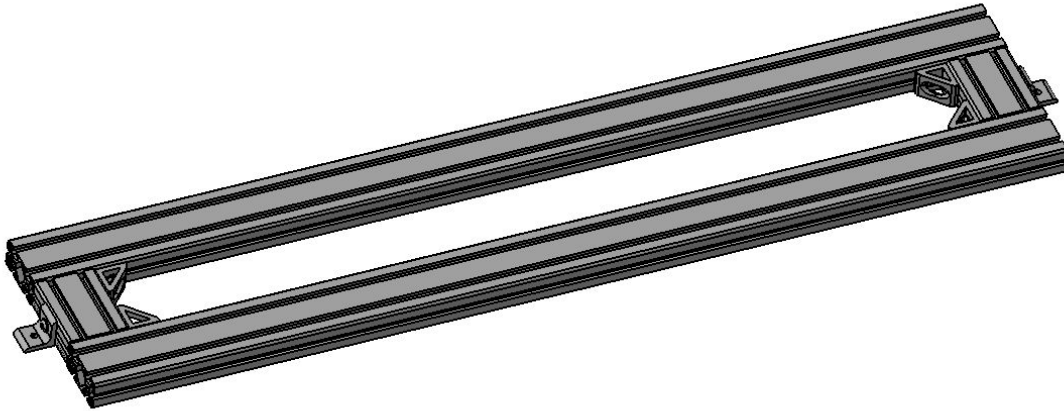

Fig. 4.7: Attaching T-slotted frame 4' (#VYTV) to T-slotted frame 4" (#WHXZ)
- ❑ Attach the assemblies from the last step at each end of the two T-slotted double beams 4' (#VYTV), connect and close the structure with button head 5/16"-18 screws (#KEDB) and T-nuts (#YREC), as shown in Fig. 4.7.
- ☐ Apply fasteners and T-nuts on only one side of the L-brackets, as shown in Fig. 4.7, because you may need the free end to attach the ground structure to the flooring.